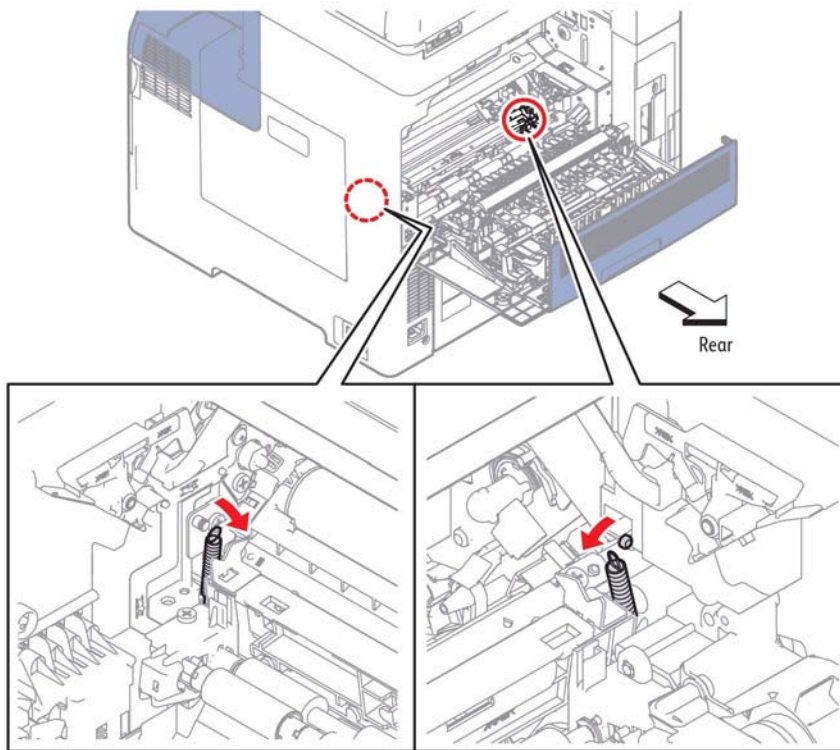

Figure 1 Remove the CTD Springs
2. Refer to Figure 1 to locate and remove the right CTD Spring from the frame.